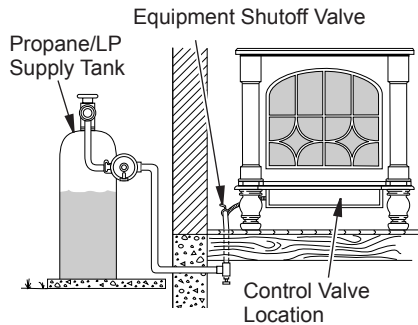

Figure 21 - Checking Gas Joints (Propane/LP Gas Only)
3. Check all joints from gas meter (natural gas) or propane/LP supply to equipment shutoff valve (see Figure 21 or 22). Apply noncorrosive leak detection fluid to gas joints. Bubbles forming show a leak.
4. Check all joints from gas meter (natural gas) or propane/LP supply to equipment shutoff valve (see Figure 21 or 22). Apply noncorrosive leak detection fluid to gas joints. Bubbles forming show a leak.